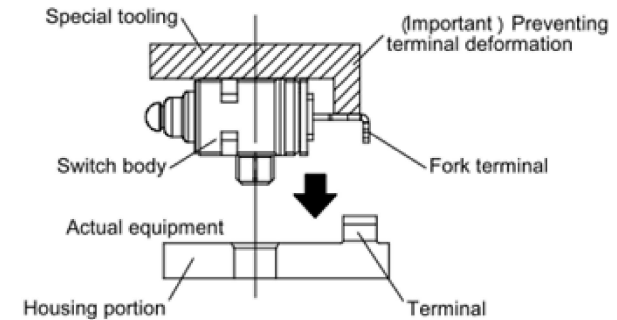

Figure-2
**6: < Important > To prevent deterioration of contact reliability, fork terminals should not be deformed in any situation. In order to prevent the deformation of the fork terminals, please use a special tooling to keep the switch vertical to the actual equipment. When inserting the fork terminal to the actual equipment, please make sure the fork terminal is well-supported, As shown in (Figure-2)**